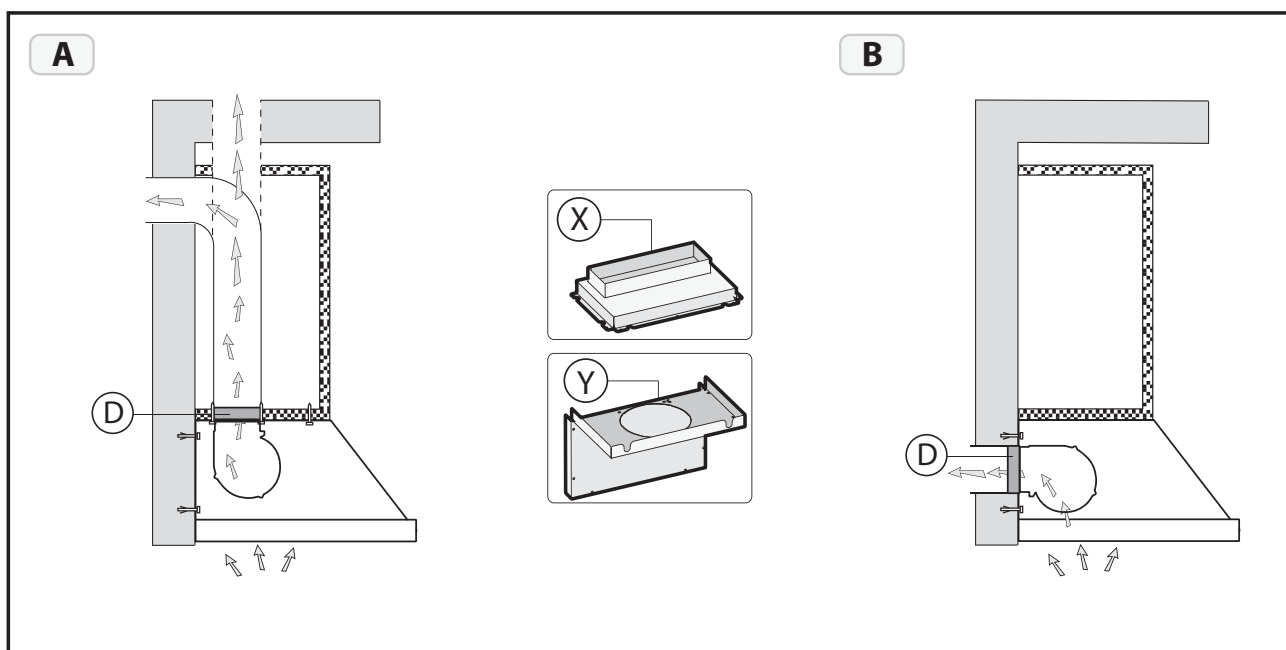

Fig.3
- The air evacuation flange is supplied with the rectangular shape **X** and circular shape **Y** (**Fig.3**).